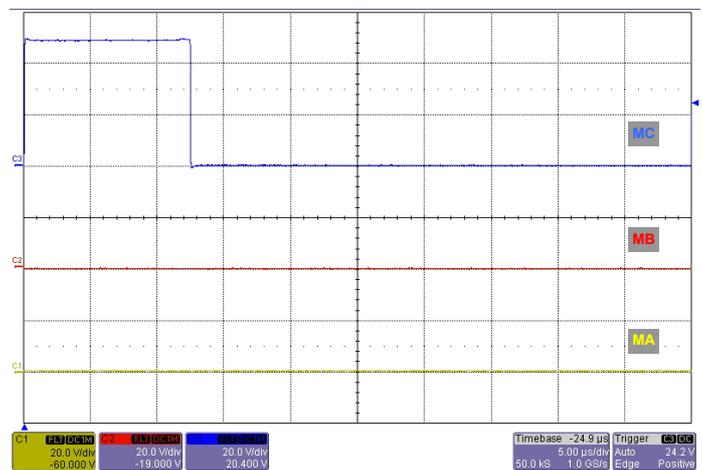

**Figure 6. Waveforms on MA, MB, and MC with HB Grounded**
- While the HB input is grounded, observe the following waveforms on the MA, MB, and MC terminals. As the example in Figure 6 shows, there should be no switching disturbances on MC and MA.